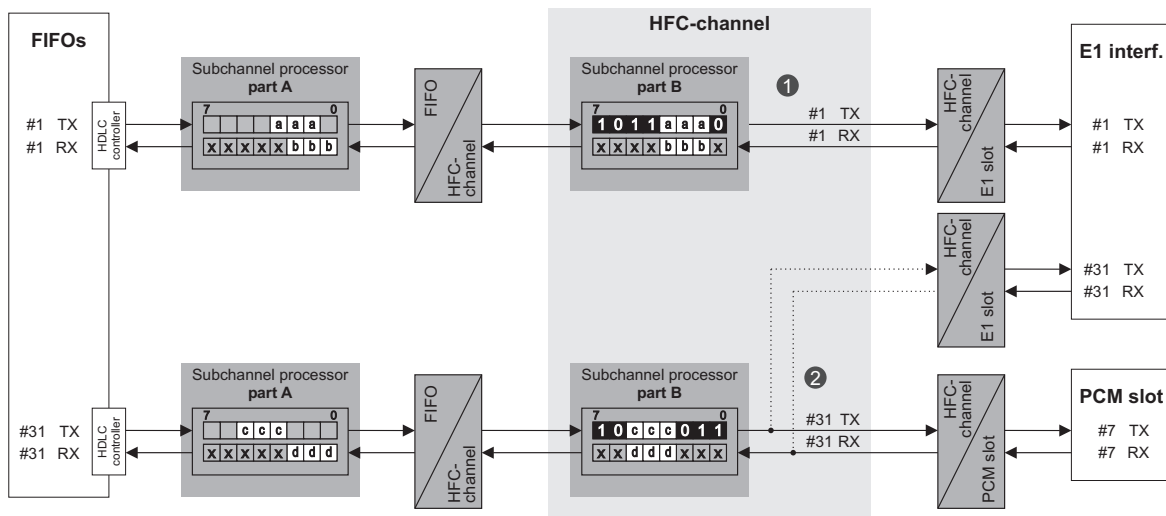

Figure 3.18: SM example with subchannel processor
The subchannel processing example in Figure 3.18 shows two bidirectional configurations (❶ FIFO-to-E1 and ❷ FIFO-to-PCM) in *Simple Mode*.
Table 3.5: Subchannel processing according to Figure 3.18 (SM ① TX, transparent mode)
Table 3.6: Subchannel processing according to Figure 3.18 (SM ① RX, transparent mode)
Table 3.7: Subchannel processing according to Figure 3.18 (SM ② TX, HDLC mode)